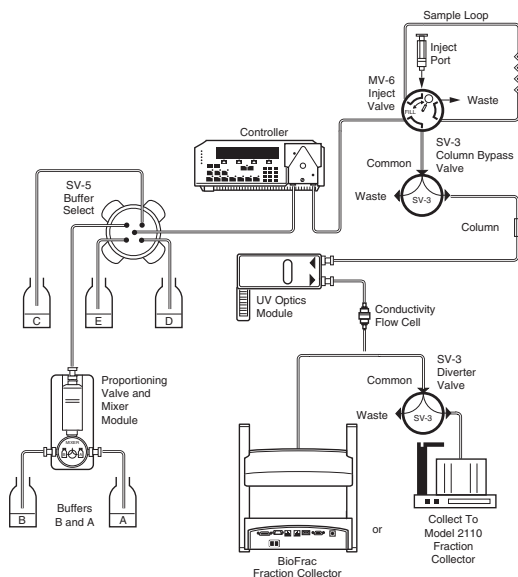

Fig. 5.
2. Position the UV monitor optics module, proportioning valve/mixer, conductivity flow cell/column holder, etc. on the rack. The plumbing diagram shown in Figure 5 will help you determine the best positions for components. Lead all cables toward the rear of the unit.
Cut tubing and install fittings to make plumbing connections as shown in Figure 5. Tygon tubing, 1.6 mm ID (furnished with the BioLogic LP system), is recommended for system connections when using the starter kit.
2. Connect the cartridge between the injector valve outlet and the UV monitor flow cell, as shown in the system plumbing diagram (Fig. 5).